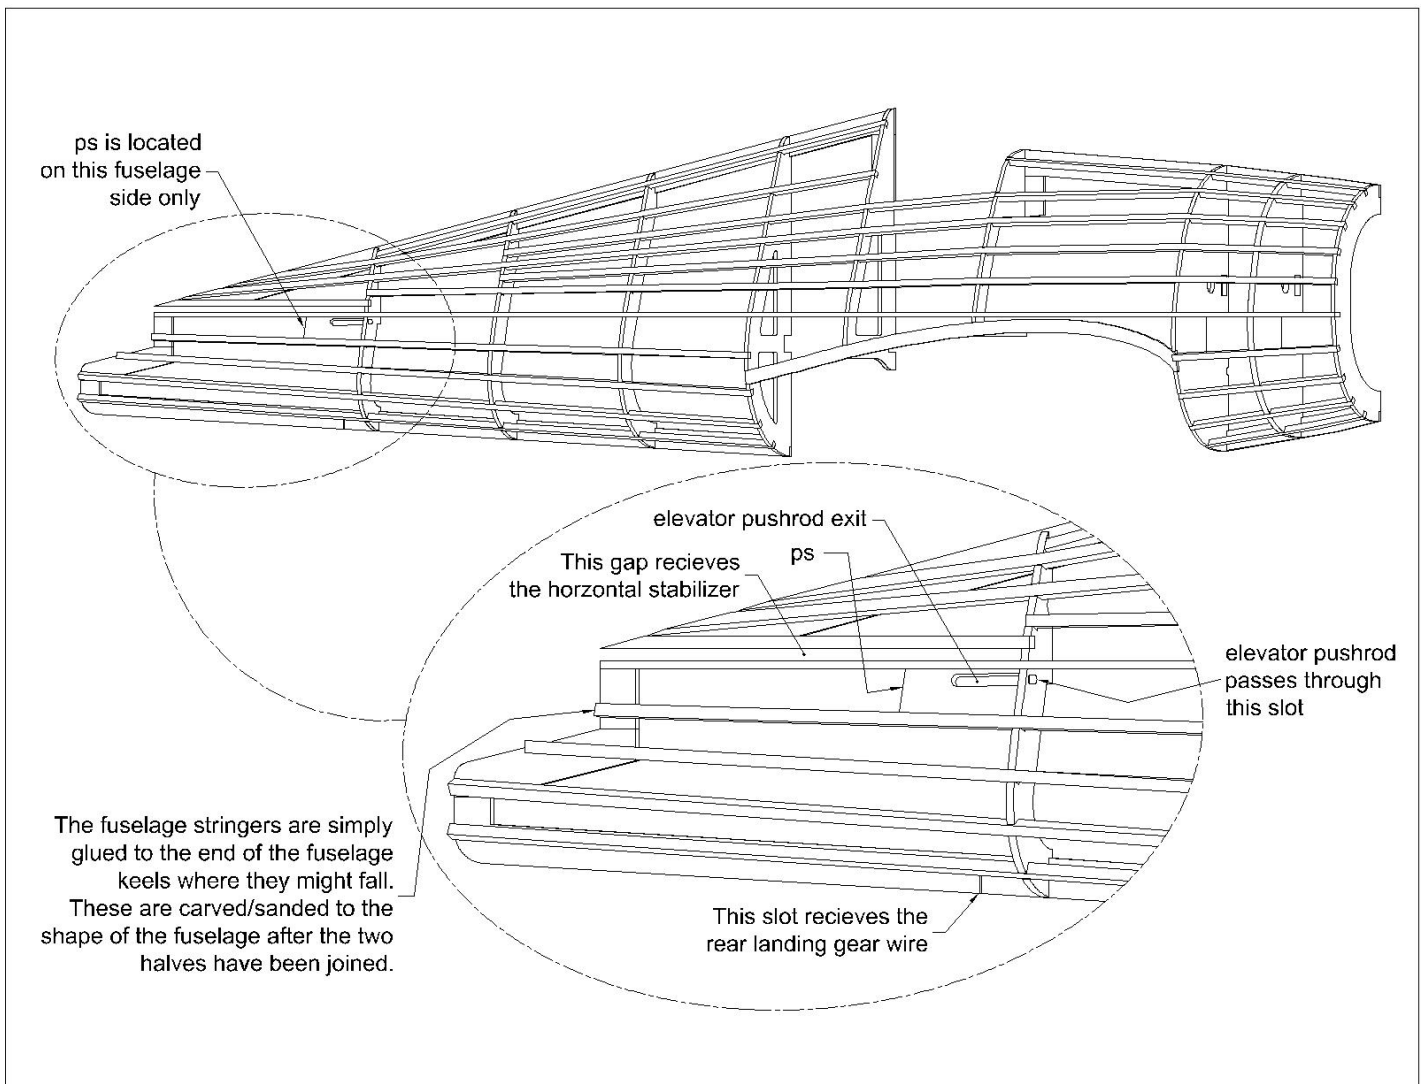

Figure 2
- ❑ Glue all 3/32" SQ balsa stringers to both fuselage side assemblies noting the end points of each stringer in Figure 2.
- ❑ Glue the elevator pushrod exit **ps** to the fuselage side shown in Figure 2. When each fuselage half is removed from the building board they may warp ever so slightly, this is due to the stress the 3/32" SQ balsa stringers introduce on the structure. Do not be concerned, as the two fuselage halves will straighten each other out when they are joined together.